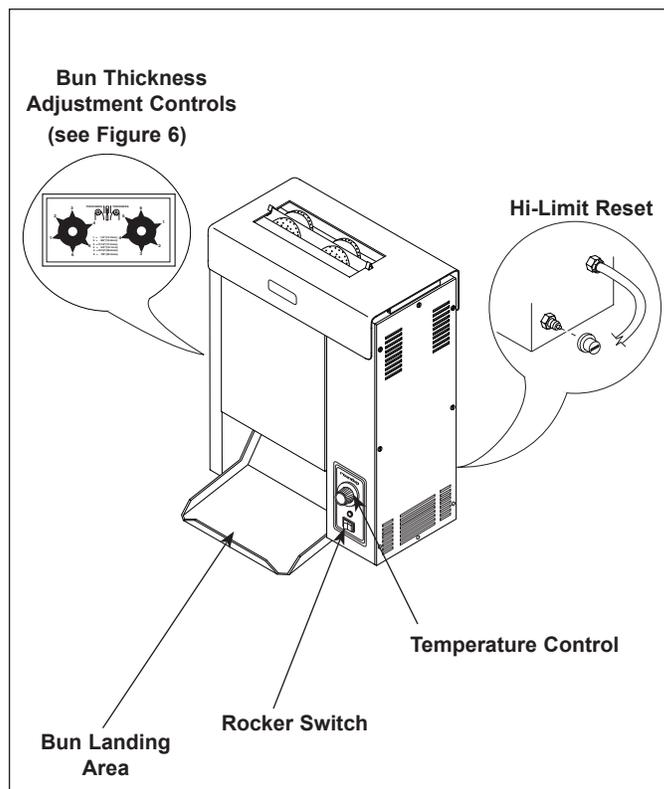

Figure 5. Toaster Controls
2. Turn the rocker switch on (Figure 5).
4. Drop buns into toaster (Figure 5). Cut sides of heel and crown must face each other.
5. Toasted product will drop into the bun landing area (Figure 5).
A hi-limit thermostat will turn off electrical power to the heater and control circuits if the unit overheats. To reset this thermostat, allow sufficient time (10-15 minutes) for the unit to cool down, then fully depress the reset button located at the rear of the unit (Figure 5).
Hi-limit switch tripped open.	Reset hi-limit switch (Fig. 5, page 9).